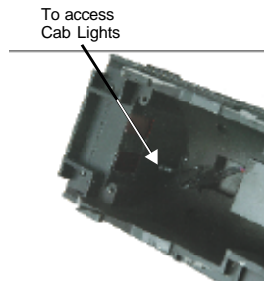

Figure 8a
1. Unplug the black connector at the rear of the boiler shell. See fig. 8a